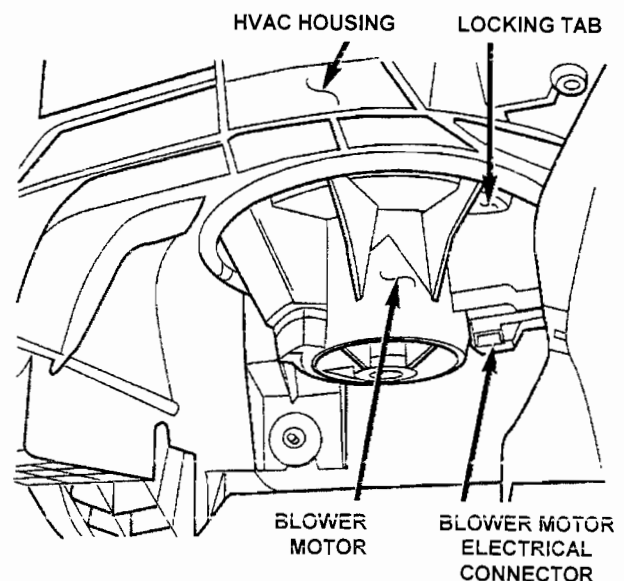

Figure 1
3. Disconnect the wire harness from the blower motor electrical connector (Figure 1).
4. Release the locking tab that secures the blower motor to the HVAC housing and rotate blower motor counterclockwise (Figure 1).
6. Align and install the new blower motor assembly into the HVAC housing (Figure 1).
7. Rotate the blower motor until the locking tab secures the blower motor to the HVAC housing (Figure 1).